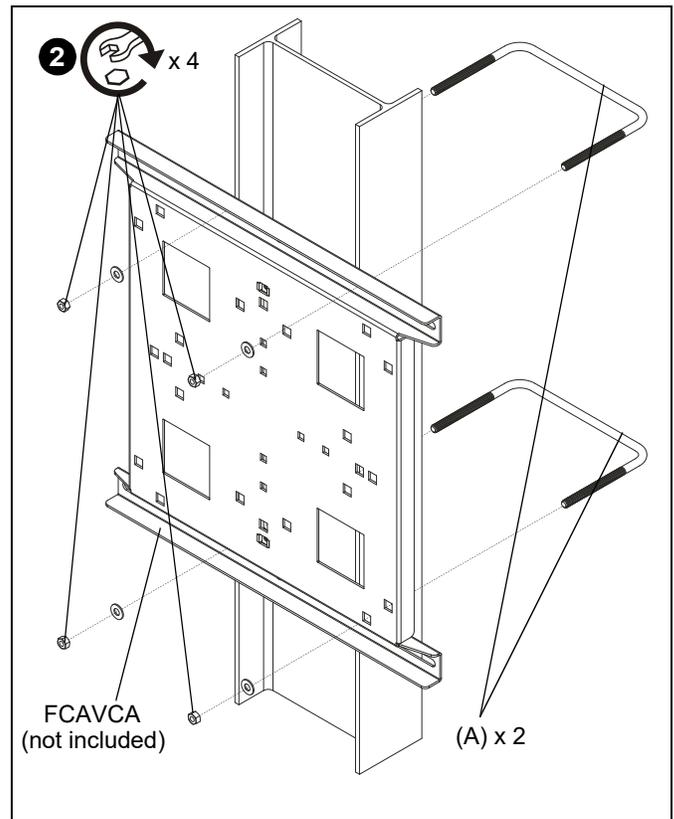

Figure 2
2. Use removed hex nuts and washers and 8" square U-bolt brackets (A) to secure FCAVCA faceplate (not included) to truss pole. Tighten to a torque rating of 250 inch-pounds. (See Figure 2)